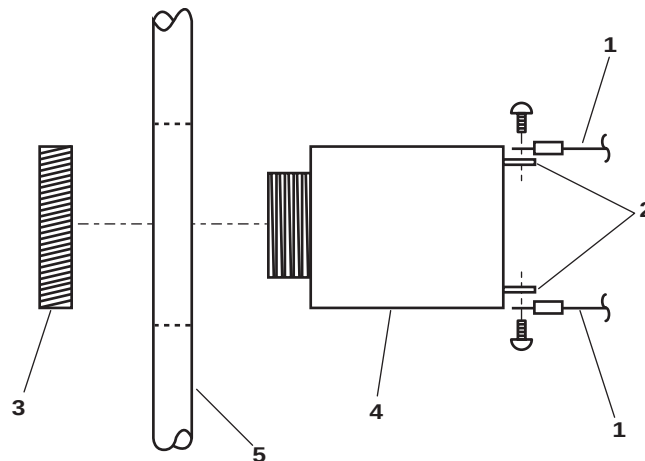

Figure 14. Pilothouse Alarm Panel Buzzer Replacement
4. Label and disconnect the wiring (figure 14, item 1) at the terminals (figure 14, item 2).
5. Unscrew the face ring (figure 14, item 3) and remove the buzzer (figure 14, item 4) from the pilothouse alarm panel (figure 14, item 5).
1. Position the buzzer (figure 14, item 4) in the pilothouse alarm panel (figure 14, item 5) and secure it with the face ring (figure 14, item 3).
2. Connect the wiring (figure 14, item 1) to the terminals (figure 14, item 2) and remove the labels installed during removal.